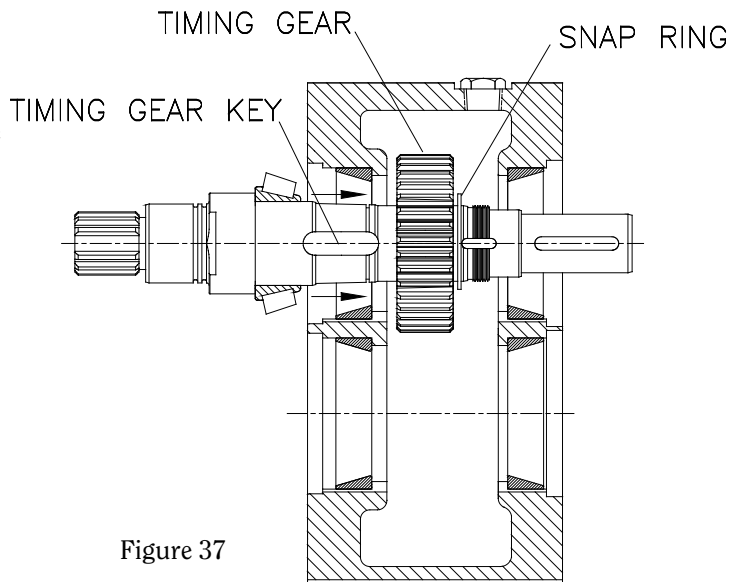

Figure 37
- Install the gear snap ring, to secure the gear to the pump shaft, with the straight snap ring pliers (Figure 37).